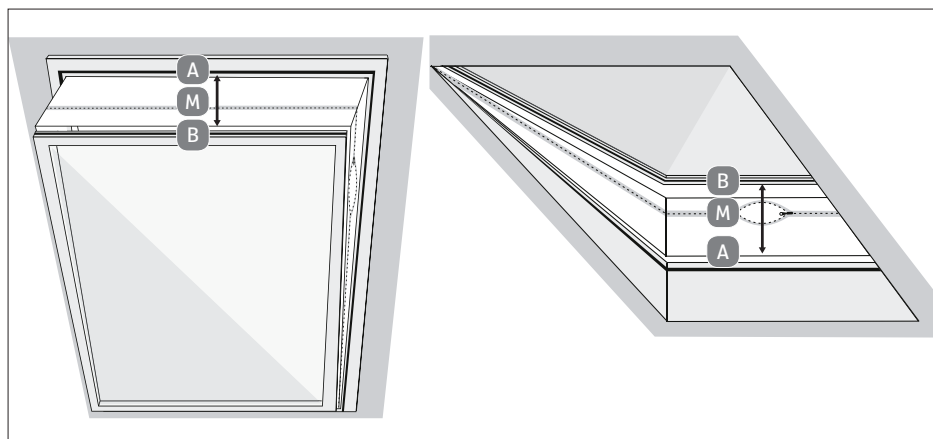

Fig. 14 – Mounting on roof window
- ▶ Loosen the wing nut until there is enough space between part A of the window kit and the slider. (**See Fig. 14 Step I**).
- ▶ Insert the two parts of the window kit A & B into each other so that the slider engages in the groove of part B of the window kit. Adjust the window kit to the desired size by pushing the window kit together or pulling it apart and tighten the wing nut again. (**See Fig. 14 Step II**).